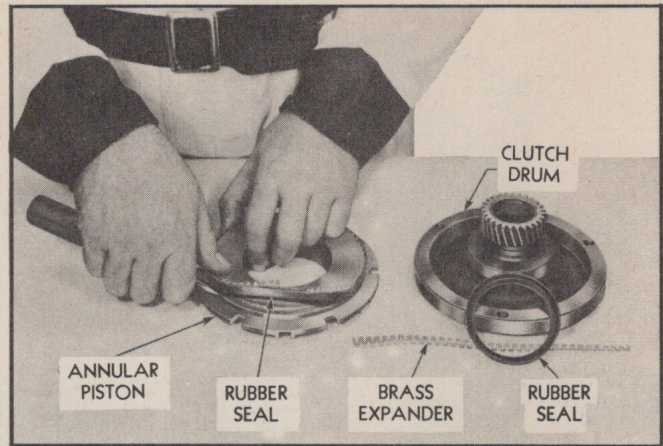

Fig. 138—Removing Rubber Seals and Brass Expanders
6. Remove rubber piston seals and brass expanders from annular piston and clutch drum piston. Use blunt edge screw driver (Fig. 138).